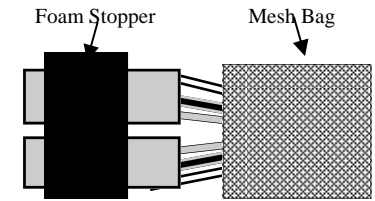

Figure 6
3. Slide mesh centering bag over splice connectors. (see figure 6)